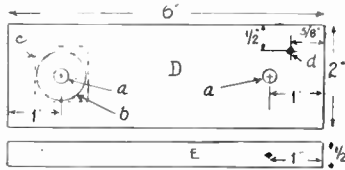

Fig. 2—The parts of the case
make the following constructional details clear. Construct the case first, the parts of which are grouped together in Fig. 2. (D) shows both the front and back of it. There are differences here which must be closely followed. The front (of $\frac{1}{2}$ in. wood) is cut to the dimensions given, and at the spots lettered (a-a), bore $\frac{1}{16}$ in. holes through. Mark and bore these holes accurately, and, to save some tedious repetition, follow this practice throughout. Bevel the holes by using a countersinking tool in the drill, a few turns doing the trick.